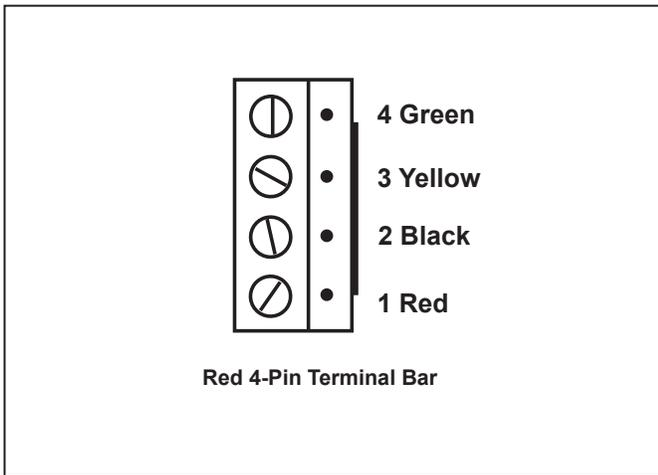

FIGURE 5. RS-485 WIRING
2. Connect four (4) separate wires to each terminal (Figure 5).